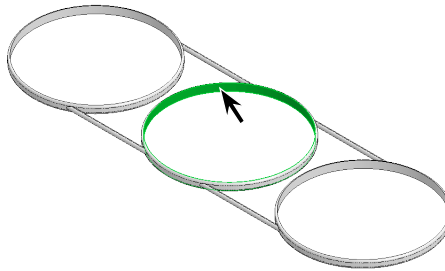

Fig. 22
Step 3. Click **cylindrical face of center Ring** and **vertical cylindrical face at bottom of center Engine Nozzle**, **Fig. 22**.